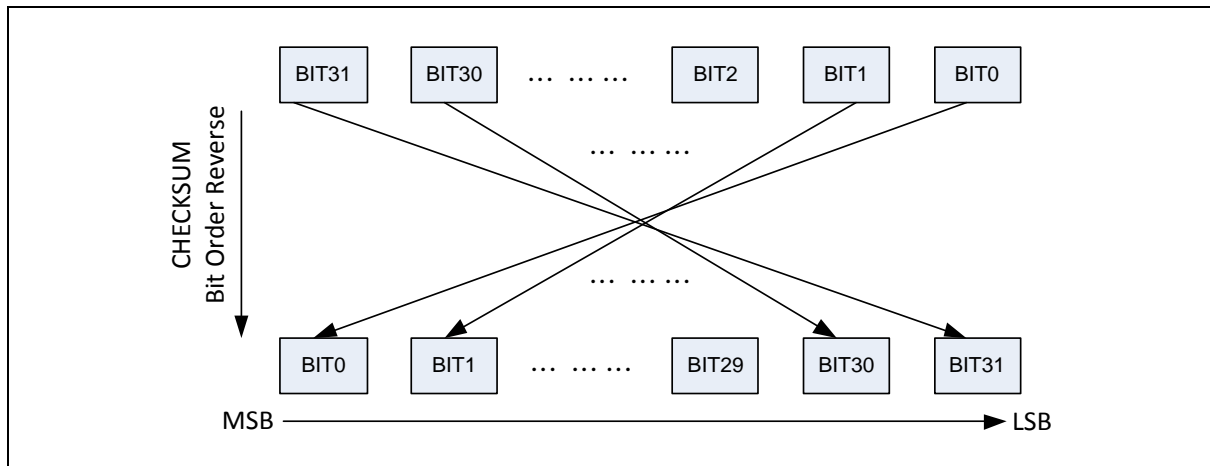

Figure 6.25-2 CHECKSUM Bit Order Reverse Functional Block
- 1) Configure bit order reverse for CRC checksum by setting CHKSREV (CRC_CTL[25] Checksum Bit Order Reverse). The functional block is also shown in Figure 6.25-2 CHECKSUM Bit Order Reverse Functional Block